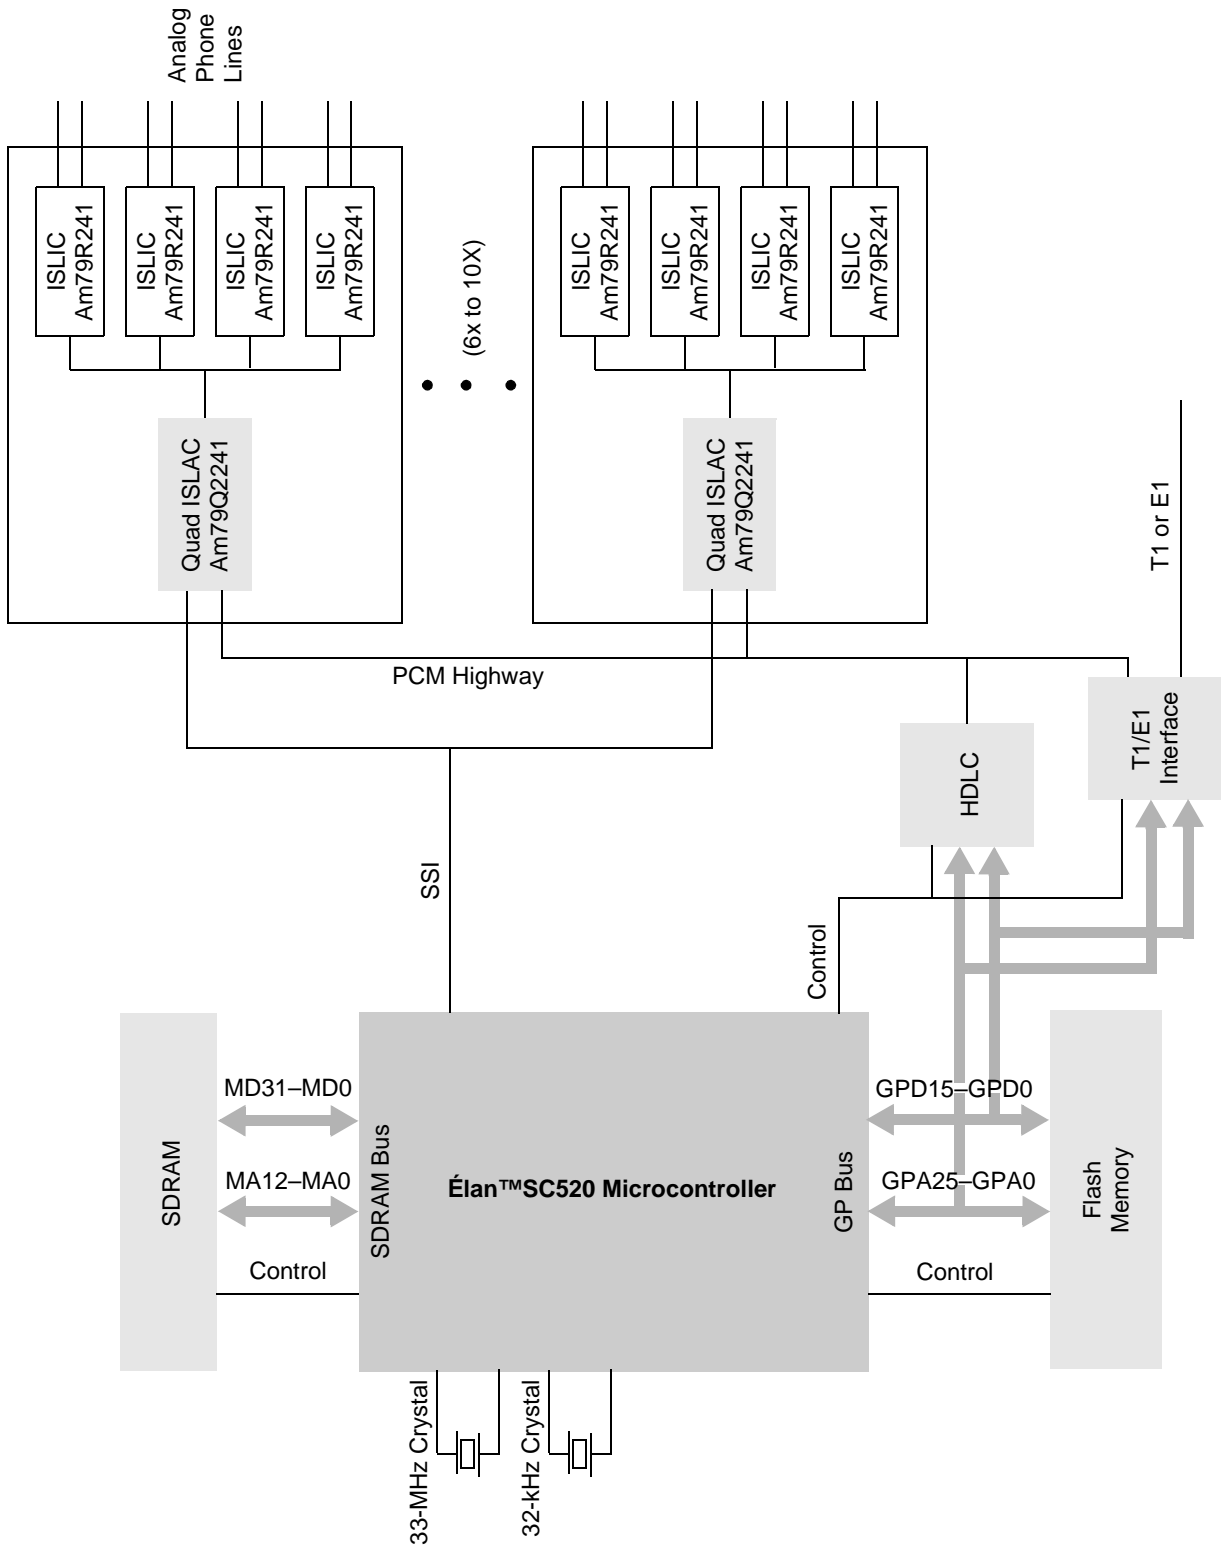

Figure 5. Élan™SC520 Microcontroller-Based Telephone Line Concentrator Reference Design
- Figure 5 on page 37 shows an ÉlanSC520 microcontroller-based telephone line concentrator located in the neighborhood that converts multiple analog subscriber loops into a high-speed digitally multiplexed line for connection to the central office switching network.